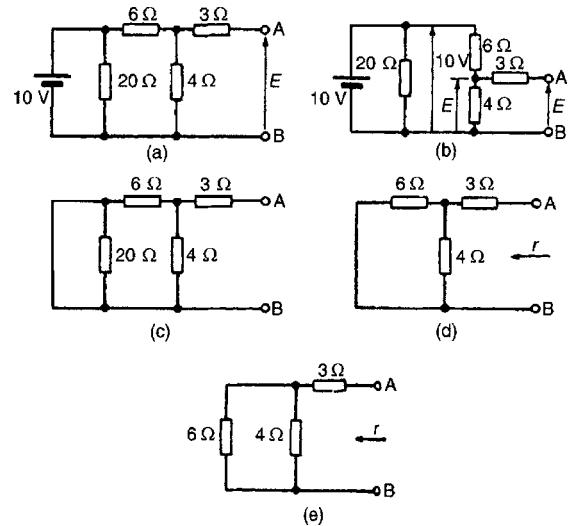

Figure 13.33
- (v) For the circuit shown in Fig. 13.33(a), the 3 Ω resistor carries no current and the p.d. across the 20 Ω resistor is 10 V. Redrawing the circuit gives Fig. 13.33(b), from which
- (vi) If the 10 V battery in Fig. 13.33(a) is removed and replaced by a short-circuit, as shown in Fig. 13.33(c), then the 20 Ω resistor may be removed. The reason for this is that a short-circuit has zero resistance, and 20 Ω in parallel
with zero ohms gives an equivalent resistance of  $(20 \times 0)/(20 + 0)$  i.e. 0 Ω. The circuit is then as shown in Fig. 13.33(d), which is redrawn in Fig. 13.33(e). From Fig. 13.33(e), the equivalent resistance across AB,